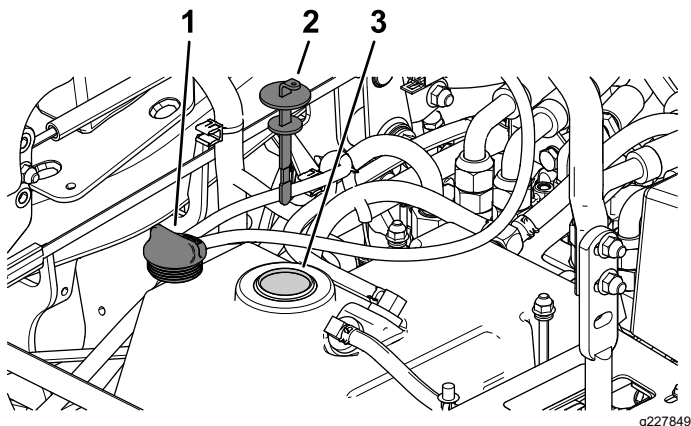

Figure 70
5. Remove the hydraulic-tank cap (Figure 70).
6. Remove the dipstick and wipe it with a clean rag (Figure 70).